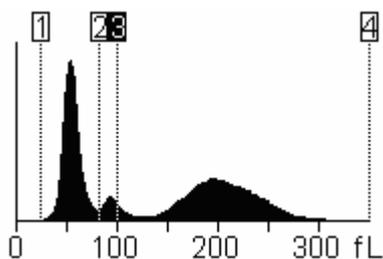

Figure7-25 Adjusting discriminator (2)
4. Press [←] to move the third discriminator to 100fL, as Figure7-25 shows;